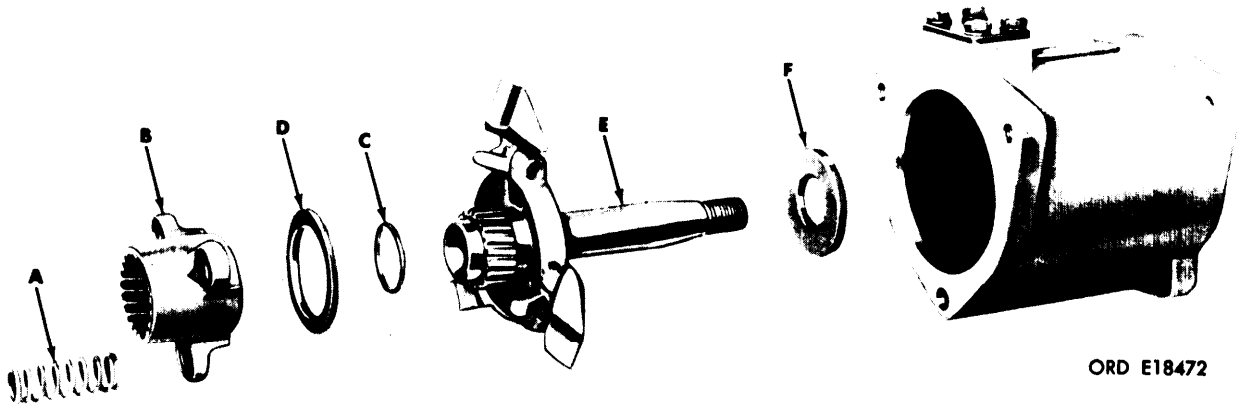

Figure 3-95. Removing sliding gear, spider assembly and associated parts.
(1) Refer to figure 3-95. Remove the three